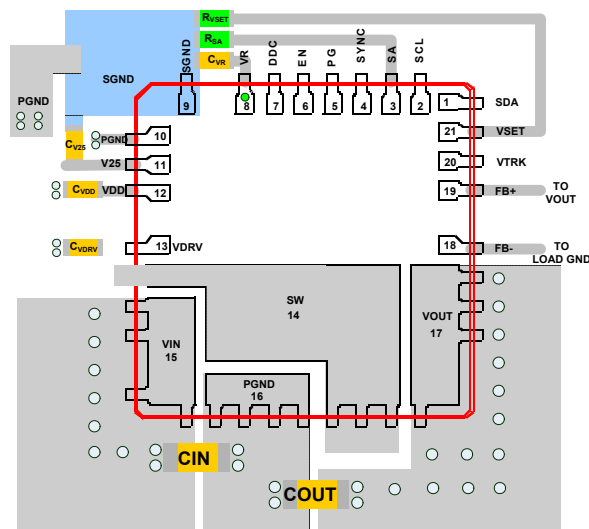

FIGURE 21. RECOMMENDED LAYOUT
- Establish a separate ground plane for SGND (Pin 9) and PGND (Pins 10 and 16) and connect them at a single point as shown in the Figure 21. CV25, CVR, RSA, and RVSET are placed on the bottom layer and are connected to a single SGND plane that is connected to the PGND at a single point. This will help to block the high frequency noise from entering to the controller via SGND.
- Place a high frequency ceramic capacitor between (1) VIN and PGND (Pin 16), (2) VOUT, and PGND (Pin 16) and (3) bypass capacitors between VDRV, VDD, V25, VR, and the ground plane, as close to the module as possible to minimize high frequency noise. High frequency ceramic capacitors close to the module between VOUT and PGND will help to minimize noise at the output ripple.